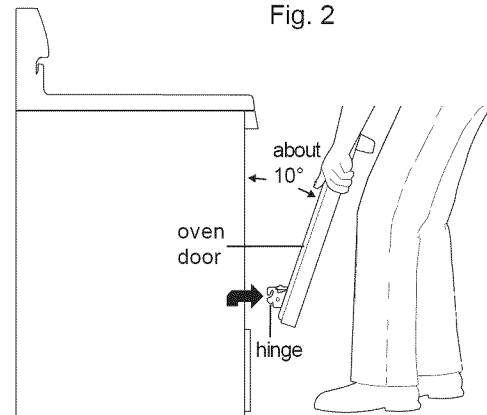

Fig. 3
1. Firmly grasp both sides of oven door along the door sides (Do not use the oven door handle - See Fig. 3).